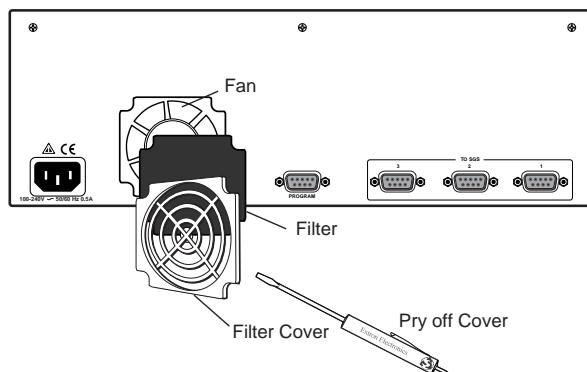

Figure A-1 — Removing the fan filter
2. Using a small flat-blade screwdriver, pry the fan cover off of the rear panel of the ECP 1000 (figure A-1).